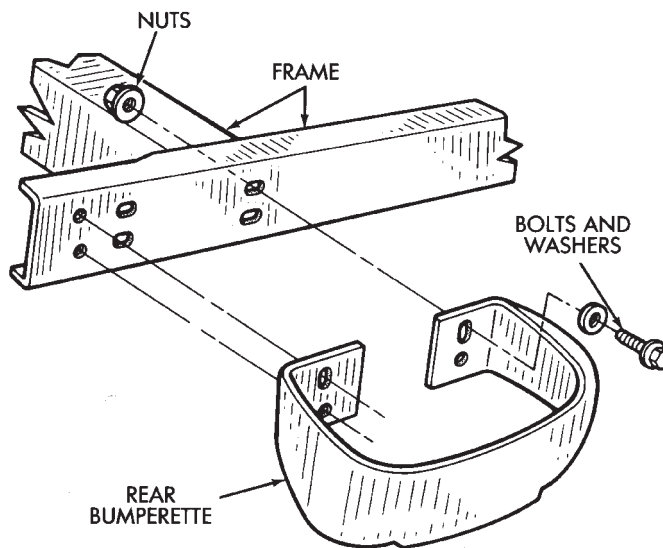

Fig. 2 Rear Bumperette
When equipped with a spare tire carrier attached to the tailgate, a rear bumperette is attached to the frame (Fig. 2 and 3).
(1) Remove the bumperette and draw bar retaining nuts, bolts and washers from the frame rear crossmember (Fig. 2 and 3).
(2) Remove the bumperettes, spacers, brackets and draw bar from the rear crossmember.